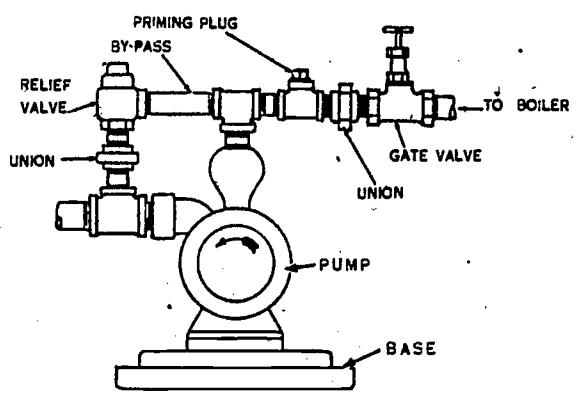

Figure 15. The location of the priming pump.
11. Before starting a new pump or one that has been idle for a long period of time, you should turn the pump shaft by hand to see that the impeller is free. Also, be sure that all valves in the feed line between the pump discharge and the boiler are open. Your failure to do these things can result in damage to the pump and the motor. Before putting this type of pump into operation, you should insure that the mounting bolts are tight and that the motor and pump are properly aligned. Improper alignment can cause damage to the couplings and bearings, and result in a bent pump shaft. If the water supply inlet is lower than the pump, it may be necessary to prime the pump. This is done by removing the priming plug, shown in figure 15, and pouring water into the pipe until the pump will start pumping water. There should always be a nonreturn or check valve installed between the boiler and the pump discharge. This prevents hot water or steam from traveling from the boiler to the pump and causing damage to the pump parts.